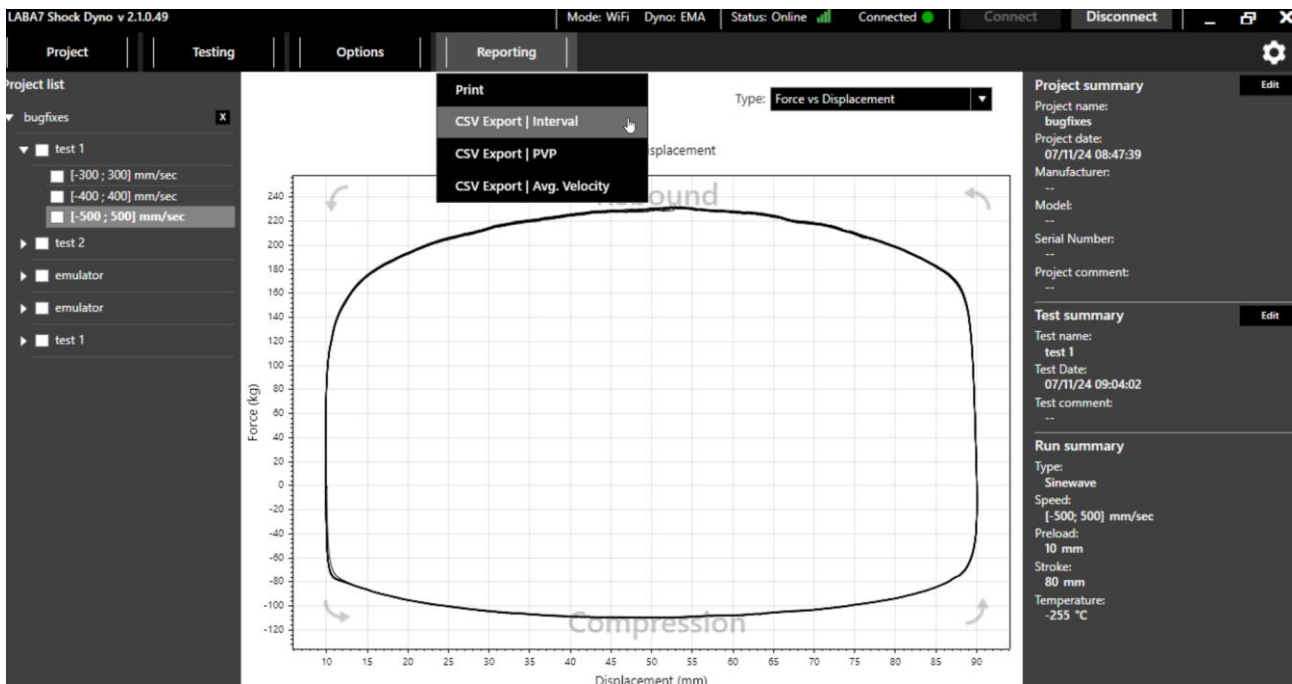

Figure 46
2. Press reporting (Figure 46).
2. Press “reporting” (Figure 46).
2. Press “reporting”(Figure 46)